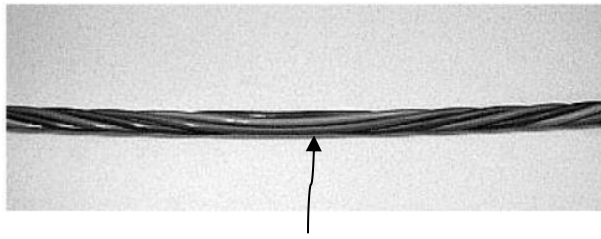

Figure 22 - Reversal Point
5.8 Locate a buffer tube reversal point (**where the buffer tubes change direction**) by removing the outer cable sheath in 300 mm sections. The reversal point is where the twist of the buffer tubes changes direction (Figure 22) If reversal point hasn't been located fully within the first sheath removal, carefully remove (to the left and right) 300mm sections of the outer cable sheath until the reversal point is located making sure not to puncture existing exposed buffer tubes.